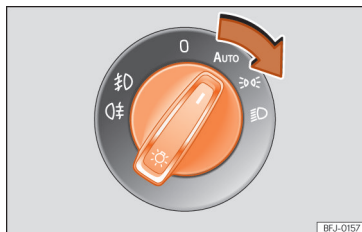

Fig. 82 Instrument panel: light panel.
- Turn on the ignition and turn the light switch to the desired position >>> **Fig. 82**: